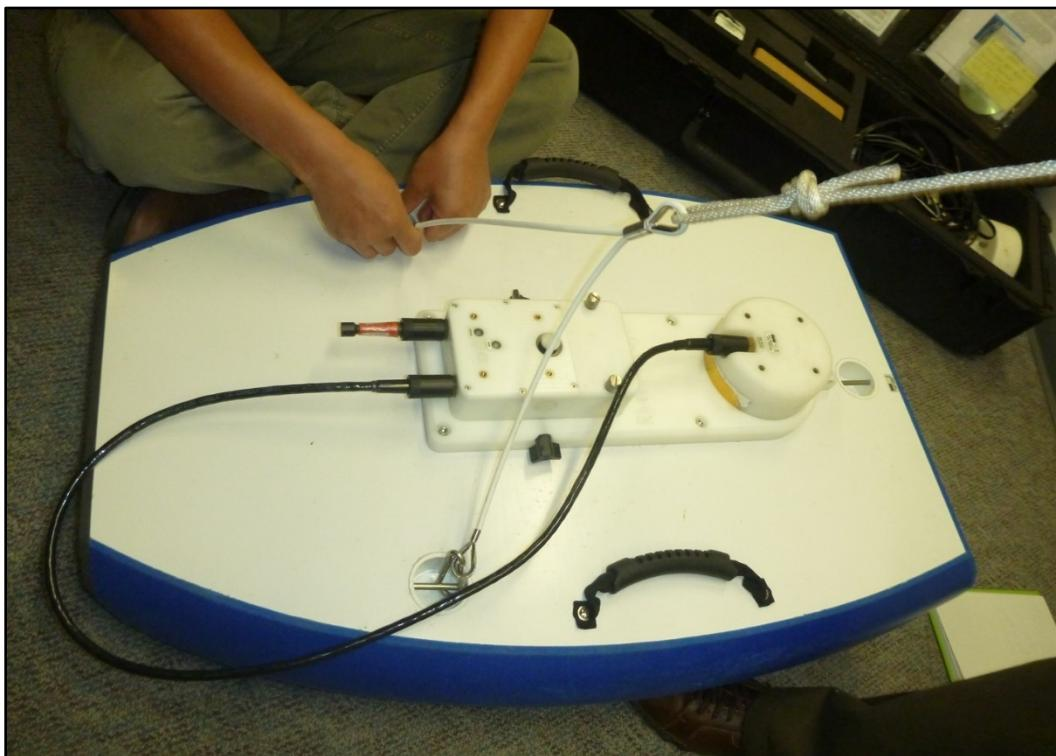

Figure 11.—Connect ADCP hydroboard to Y-cable and ropes for tagline to pull across river.
- b. Connect hydroboard to tagline using white Y cable and carabiners (figure 11).